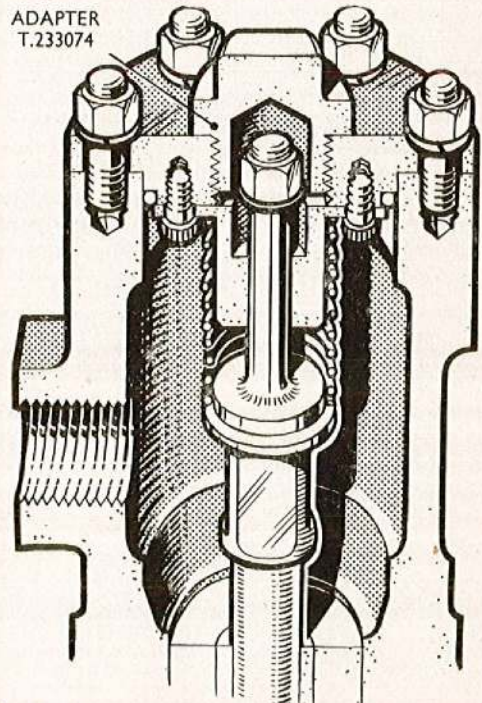

Fig. 5. Port calibration piston-loading adapter
54. Fit the piston loading adapter T.233074 to the end face of the spring housing (fig. 5) and secure it with slave nuts and washers, using the box spanner T.177125.